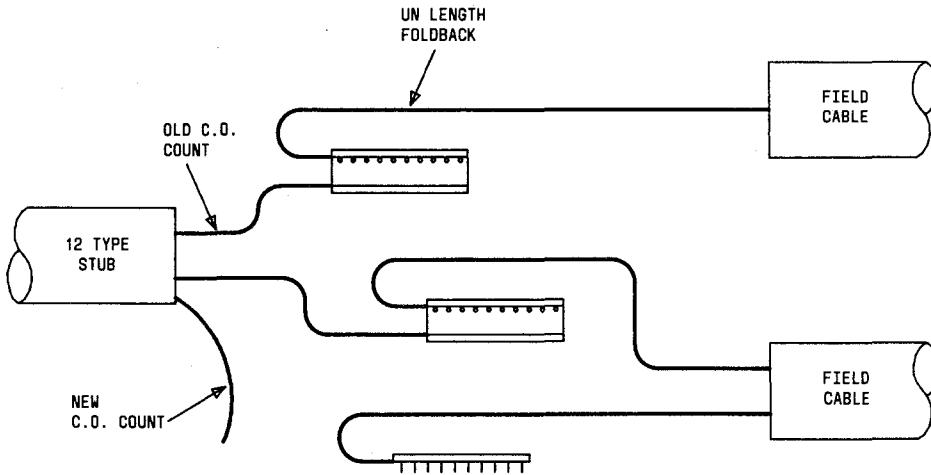

Fig. 52—Typical Splice Old and New Count
8.05 The block diagram in Fig. 52 illustrates a facility splice configuration and a typical example of old and new count.